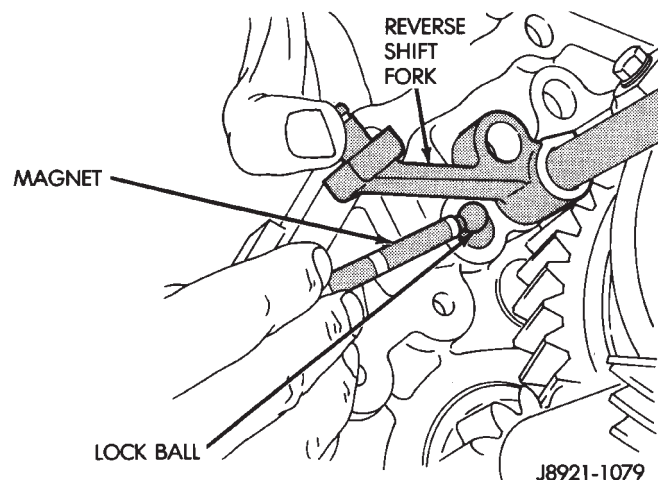

Fig. 49 Removing Fifth Gear Shift Rail Lock Ball
(9) Lift reverse shift fork upward and remove fifth gear shift rail lock ball (Fig. 49).